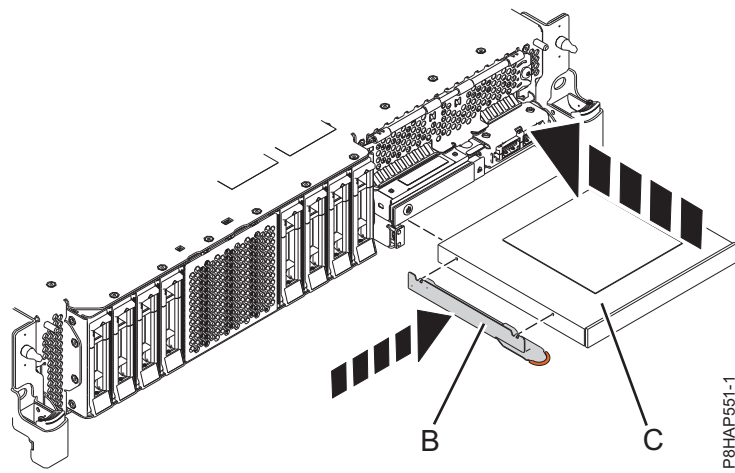
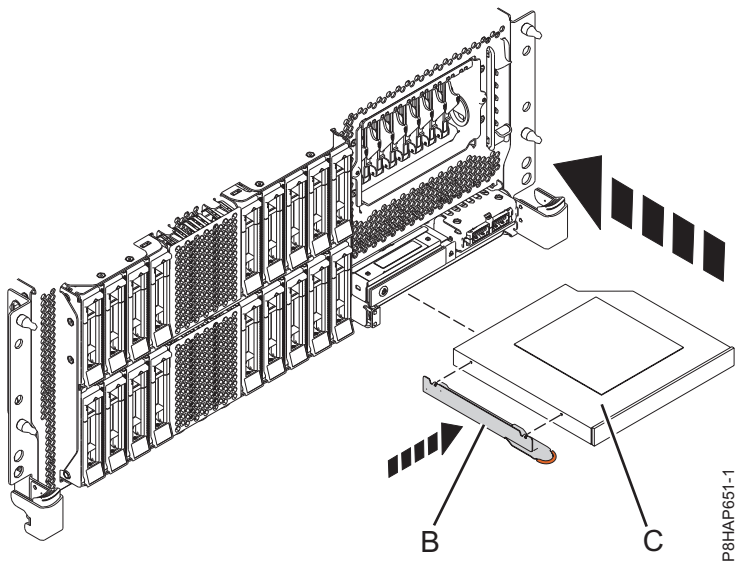
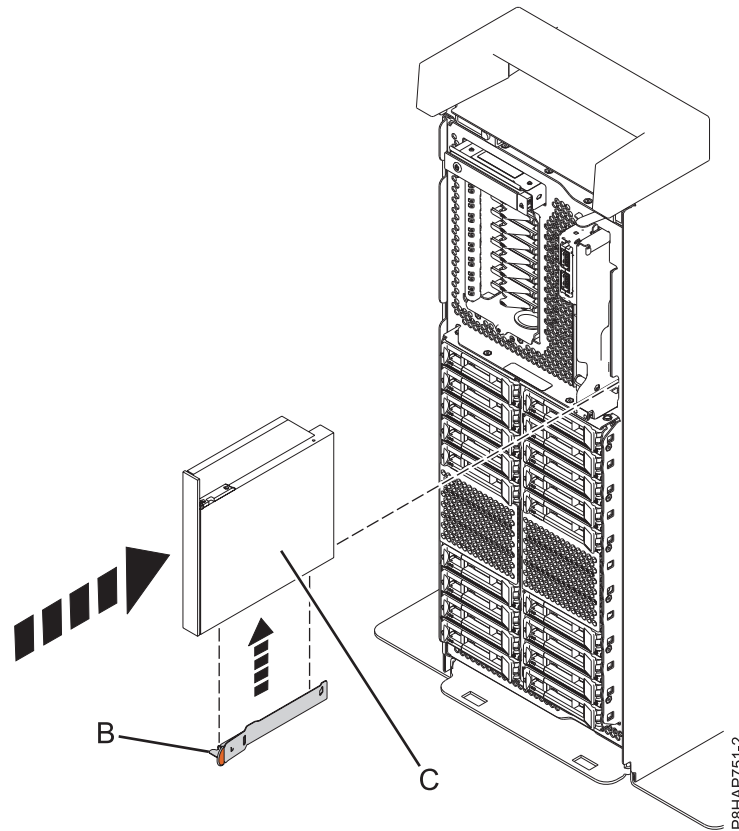

Figure 57. Replacing a Slimline media device in an 5148-21L, 5148-22L, 8247-21L, 8247-22L, 8284-21A, or 8284-22A system
Figure 58. Replacing a Slimline media device in a rack-mounted 8247-42L, 8286-41A, or 8286-42A system
Figure 59. Replacing a Slimline media device in a stand-alone system
6. Attach the retaining-bracket **(B)** to the new Slimline media device, as shown in Figure 57 on page 62 for an 5148-21L, 5148-22L, 8247-21L, 8247-22L, 8284-21A, or 8284-22A system, Figure 58 on page 62 for a rack-mounted 8247-42L, 8286-41A, or 8286-42A system, or Figure 59 on page 63 for a stand-alone 8286-41A system.
For an 5148-21L, 5148-22L, 8247-21L, 8247-22L, 8284-21A, or 8284-22A system, see Figure 57 on page 62, for a rack-mounted 8247-42L, 8286-41A, or 8286-42A system, see Figure 58 on page 62, or for a stand-alone 8286-41A system, see Figure 59 on page 63.